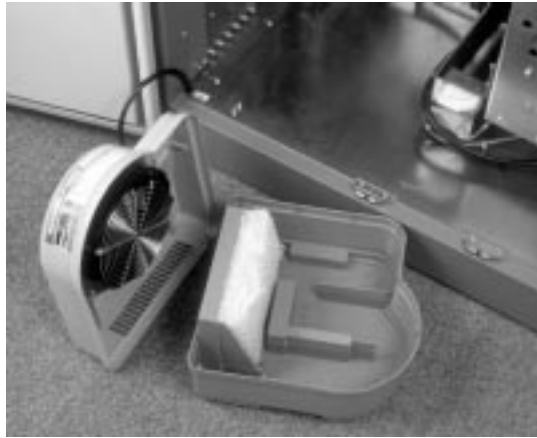

Figure 248. Humidifier Top and Water Reservoir
- 3 Remove the top of the humidifier, as shown in Figure 248 on page 326, and carefully remove the water reservoir from the tower, ensuring no water is spilled.